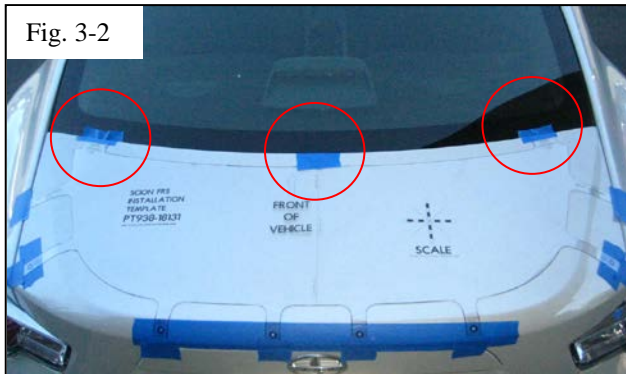

Fig. 3-2
- (b) Align the three front alignment tabs such that the edge indicated with arrows aligns with the leading edge of the trunk lid (Fig. 3-2).